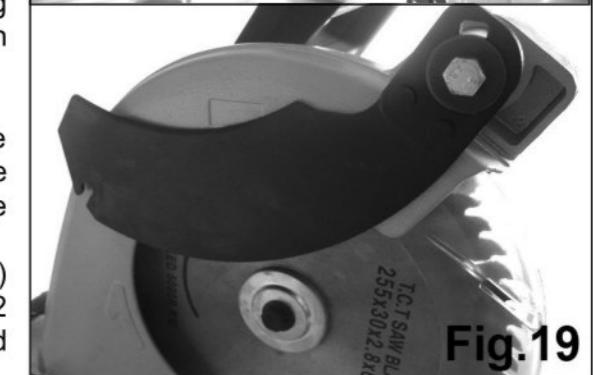

Fig. 19
4. Reposition the riving knife backwards, using the winged screw (F) Fig.10, as shown in Fig.19.